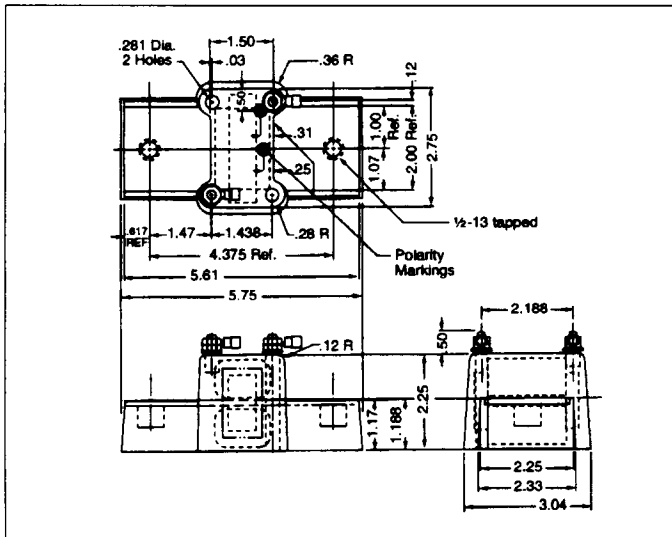

Fig. 2-6. Neutral Sensor Dimensions
- 2-5. Install the supplied neutral current sensor in the neutral pole of a four-wire system, see Fig. 2-6.